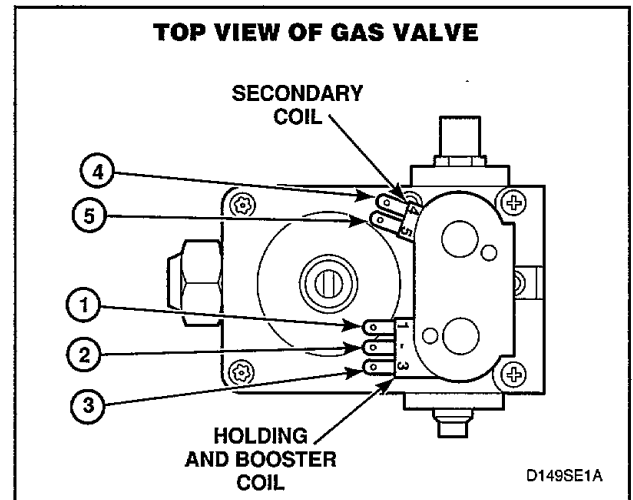

Figure 51
- Holding Coil** (see *Figure 51*)
- Booster Coil** (see *Figure 51*)
- Secondary Coil** (see *Figure 51*)